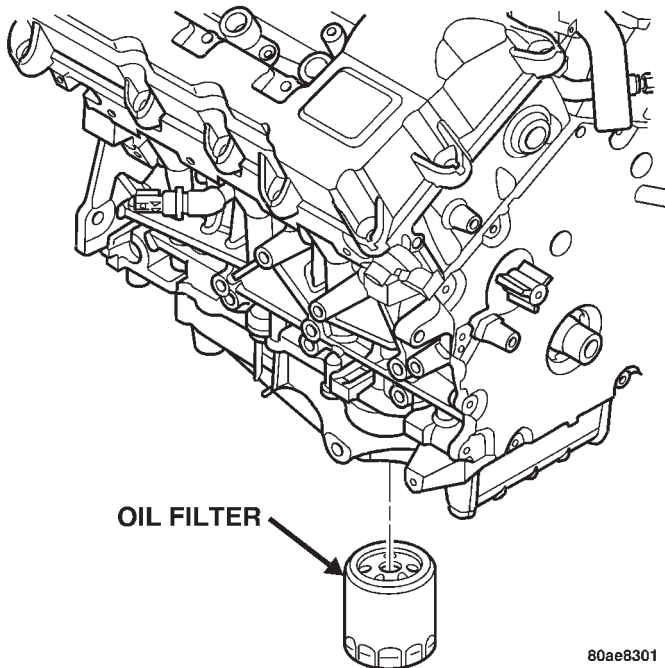

Fig. 76 Engine Oil Filter
- (1) Remove oil filter using Special Tool C-4065 or equivalent (Fig. 76). Dispose of oil filter following environmental guidelines.